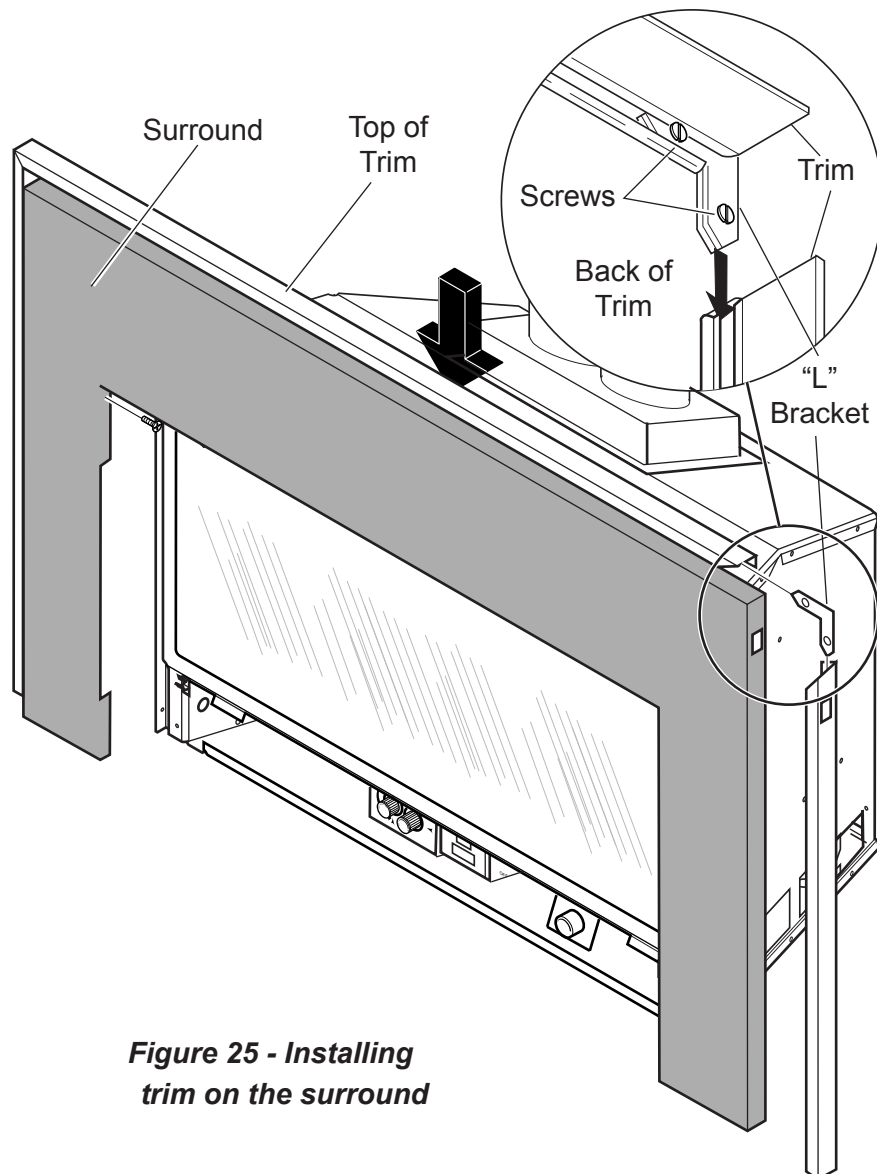

Figure 25 - Installing trim on the surround
2. Put trim together at 45° angles to form a corner. Insert "L" bracket into slots in back of trim. Tighten screws with flat head screwdriver. *See Figure 25.* Make sure there are no gaps at the 45° angle.
1. Slide trim over surround. *See Figure 25.*
2. Tighten the seven (7) machine screws located around the perimeter to secure the trim to the surround.